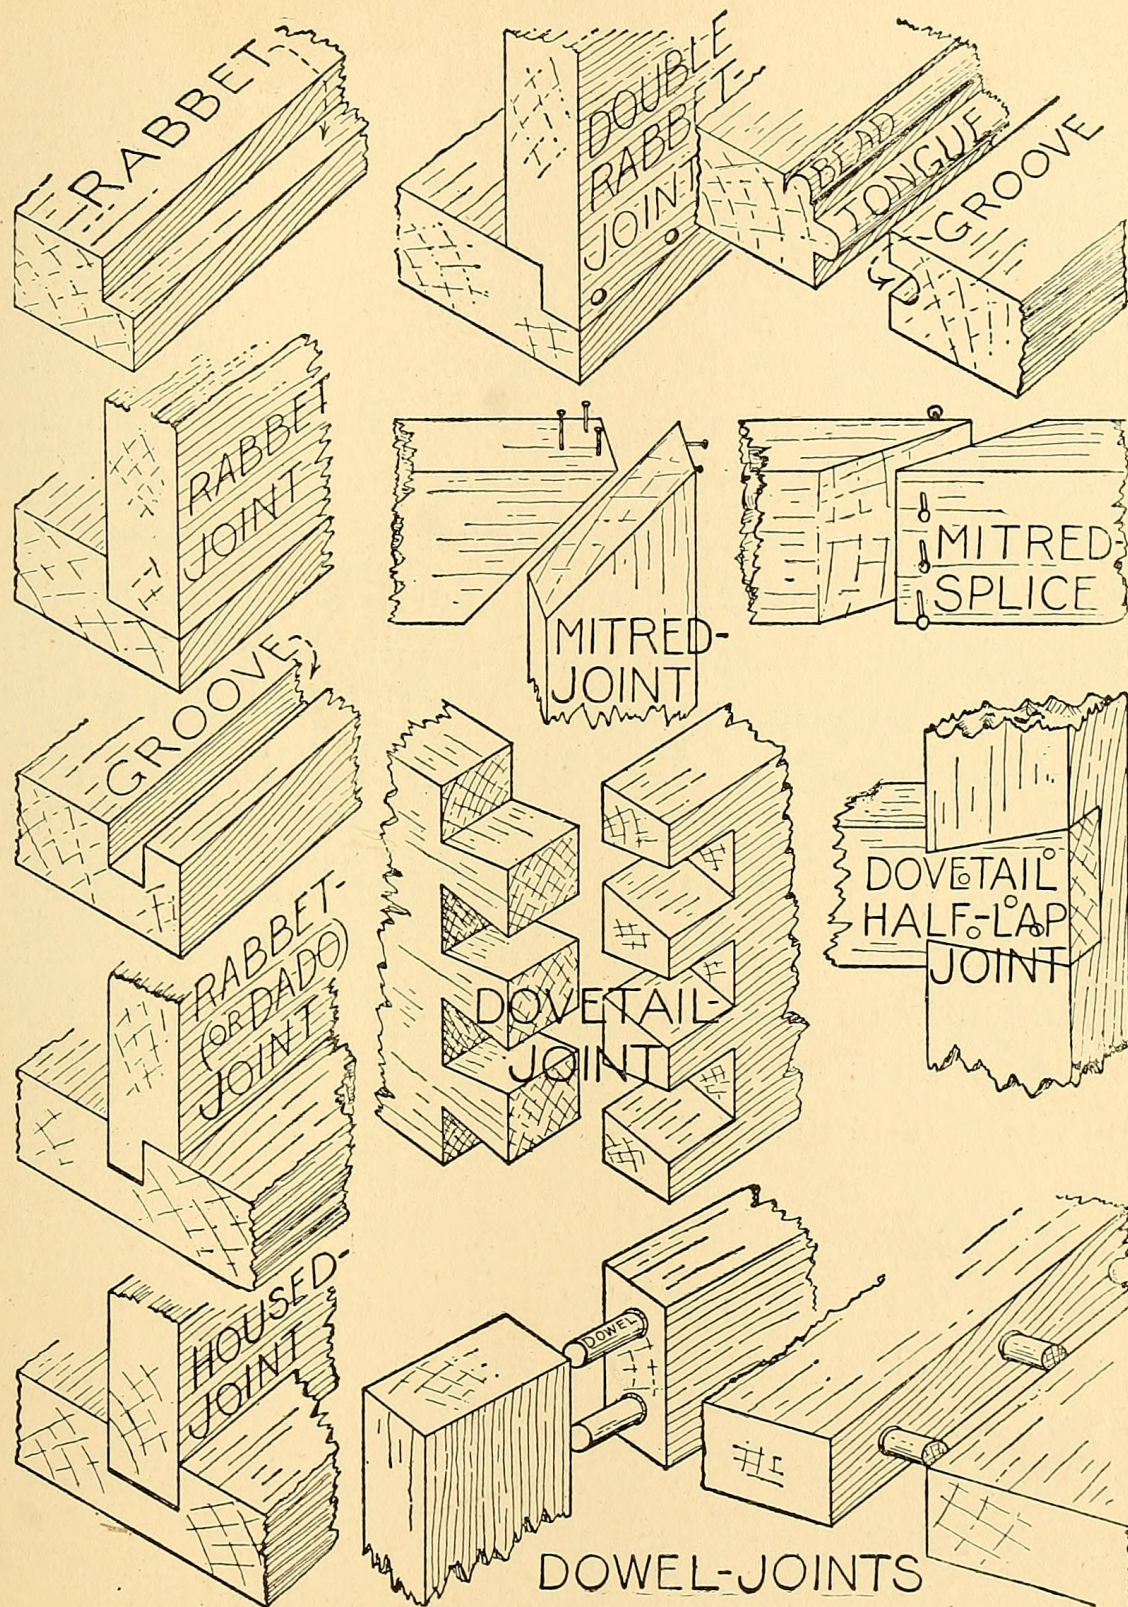

FIG. 75. — Common Forms of Joints and Splices.
*Tongued-and-grooved boards* (Fig. 75) are known as **Matched Stuff** (specified *M*), and when they are also beaded, they are said to be
**A Rabbet** is a square-corner *groove* cut in the edge of a board (Fig. 75), and
**A Dovetail Half-lap Joint** (Fig. 75) has the advantage over an ordinary half-lap joint of so locking the pieces that it is impossible to pull it apart, lengthwise of the pieces, without breaking the tenon.
**The Dowel-joint** (Fig. 75) is a *butt-joint*, but the members are fastened together with wooden pins called *dowels*. The form at the left lacks the strength and neatness of a mortise-and-tenon joint, but is often used in cheap work. At the right is shown how two or more boards may be *doweled* together to form a wide piece. *Dowel sticks* of all diameters are made for *doweling*, and you can get what you need at any furniture shop, which will be more satisfactory than to cut them out yourself. The boring of the holes in the proper positions and at right angles to the edges, so the pieces will fit together *flush* and *flat*, requires some practice. After you have *jointed* the edges of the pieces (see page 40), set your marking-gauge to a measurement equal to one half their thickness, and, from the *working face* of each board, gauge a line